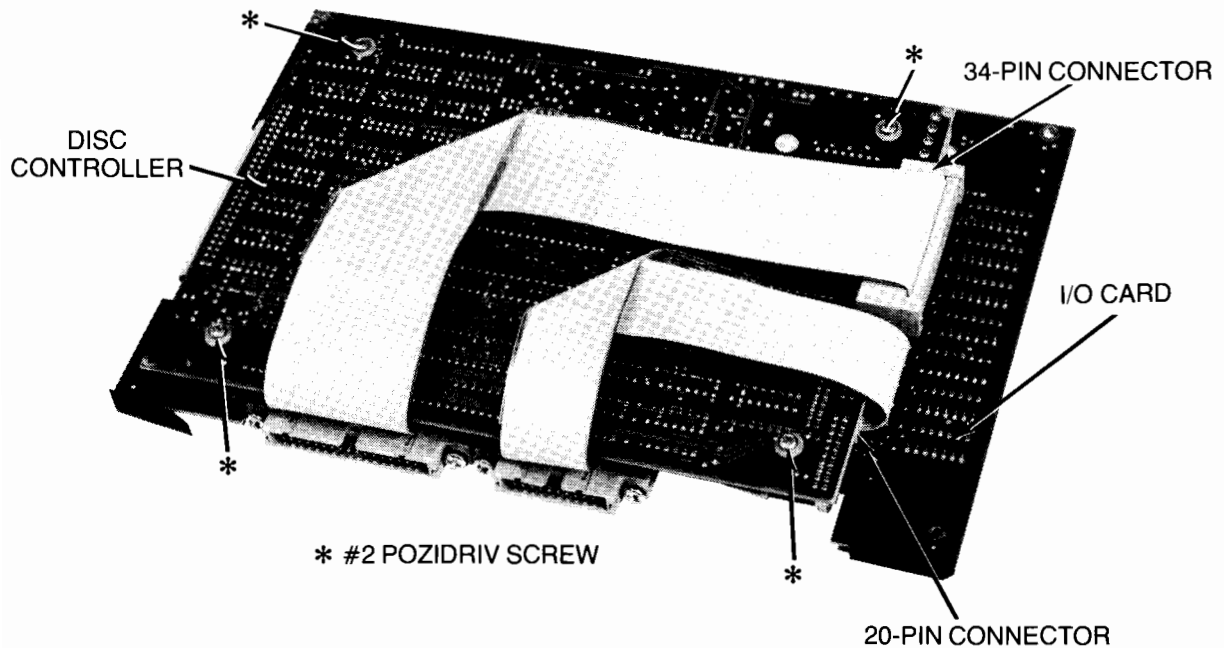

Figure 4-16. Disassembling Fixed Disc Drive Controller Assembly, View 2
3. Remove four #2 Pozidriv screws that attach disc controller to controller assembly (Figure 4-16).
4. Remove disc controller just far enough to disconnect 20-pin and 34-pin connectors from controller (Figure 4-16).